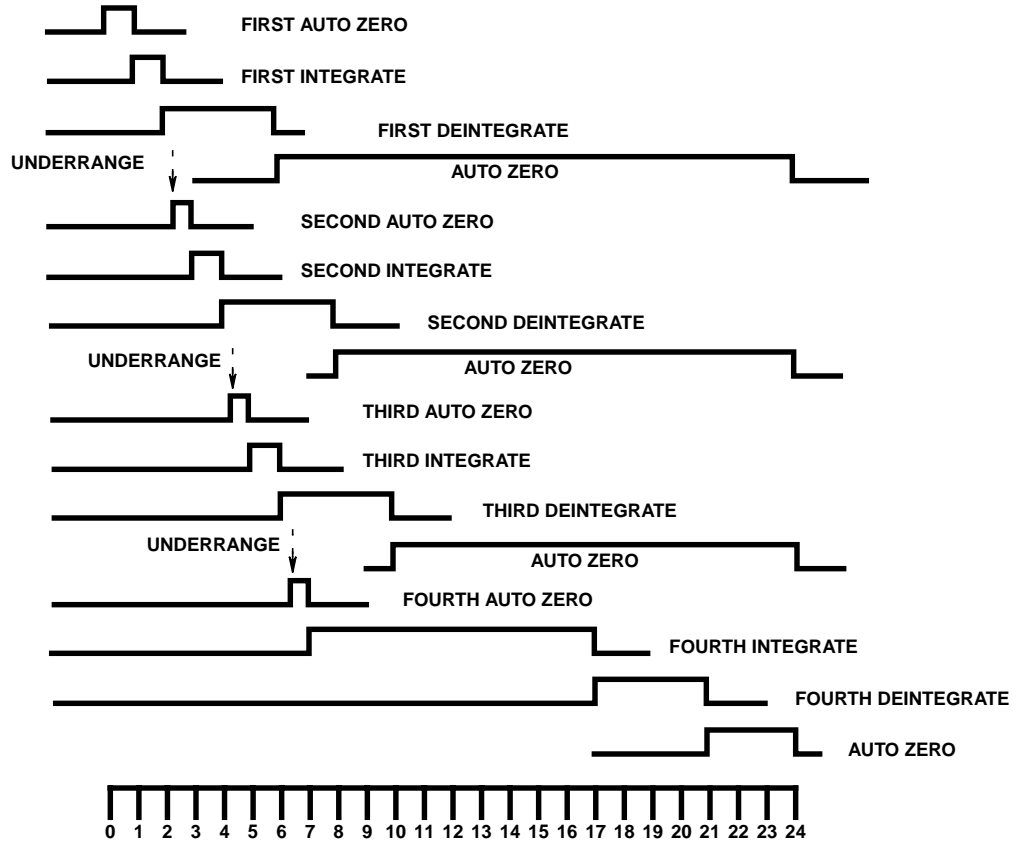
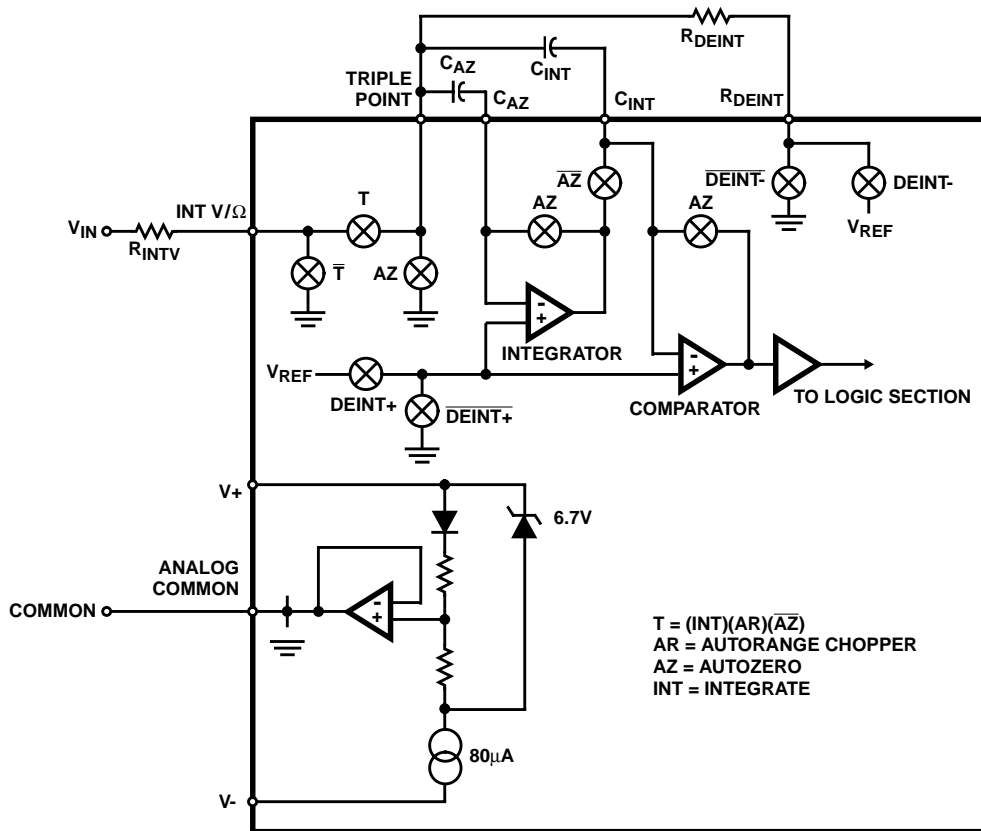

FIGURE 1. LINE FREQUENCY CYCLES (1 CYCLE = 1000 INTERNAL CLOCK PULSES = 2000 OSCILLATION CYCLES)
FIGURE 3. DETAILED CIRCUIT DIAGRAM FOR DC VOLTAGE MEASUREMENT
Electrical Specifications $V_+ = 9V, T_A = 25^\circ C, V_{REF}$ adjusted for -3.700 reading on DC volts, test circuit as shown in Figure 3. Crystal = 120kHz. (See Figure 14)
Only those portions of the analog section which are used during DC voltage measurements are shown in Figure 3. As shown in the timing diagram (Figure 1), each measurement starts with an autozero (AZ) phase. During this phase, the integrator and comparator are configured as unity gain buffers and their non-inverting inputs are connected to Common. The output of the integrator, which is equal to its offset, is stored on C_{AZ} - the autozero capacitor. Similarly, the offset of the comparator is stored in C_{INT}. The autozero cycle equals 1000 clock cycles which is one 60Hz line cycle with a 120kHz oscillator, or one 50Hz line cycle with a 100kHz oscillator.